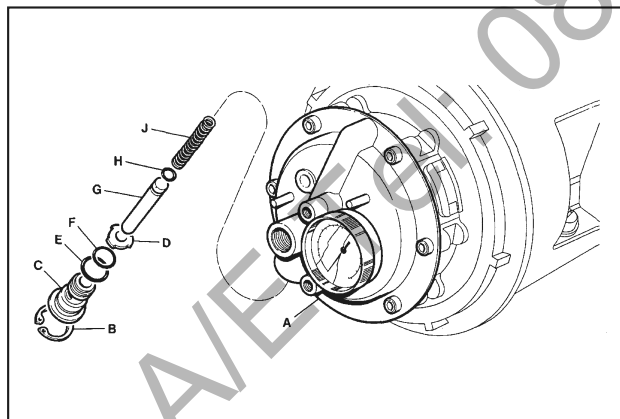

Fig 3.1 - Minimum Pressure Valve
3.2 Minimum Pressure Valve (Fig 3.1)